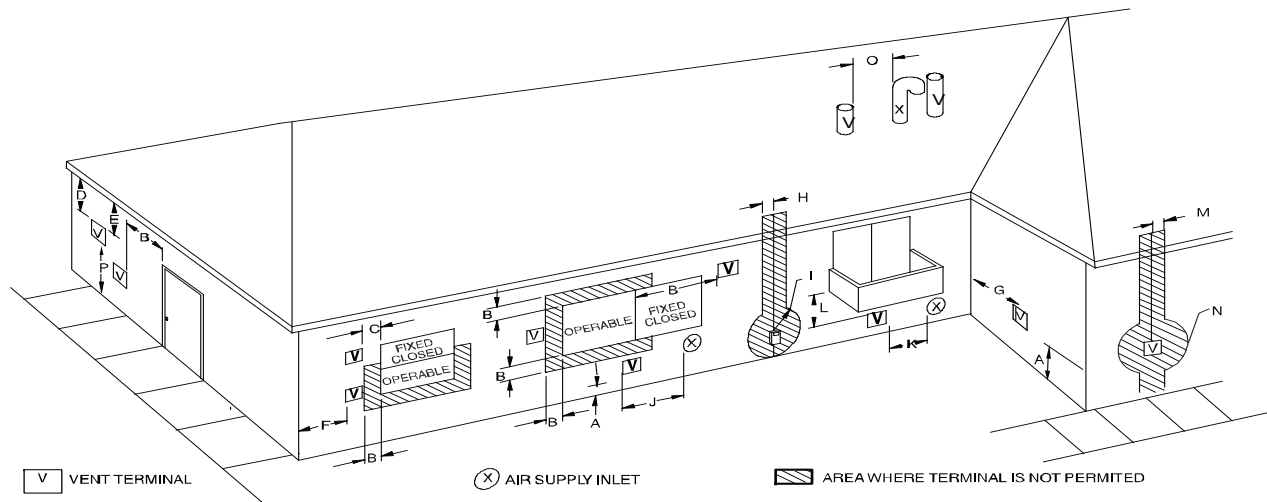
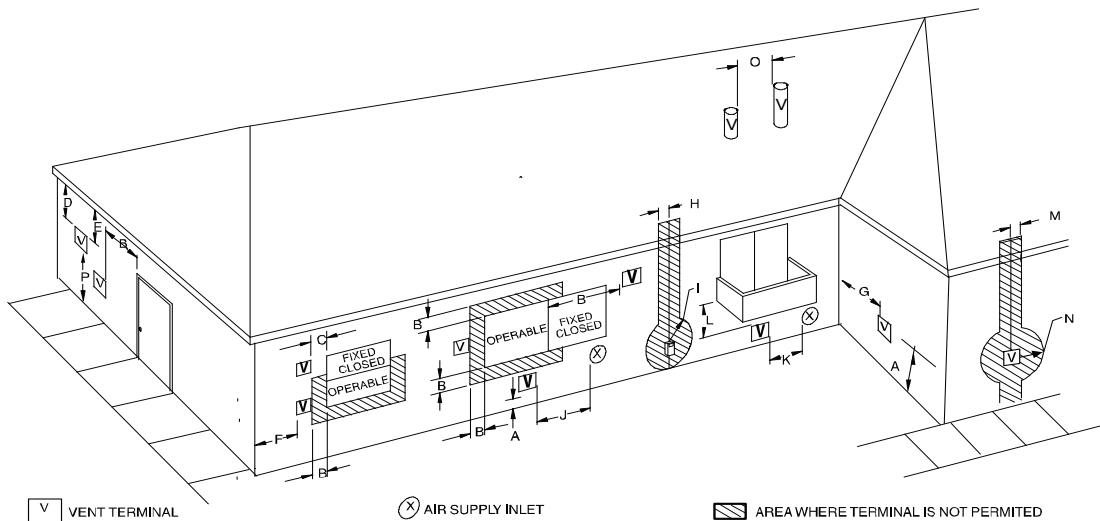
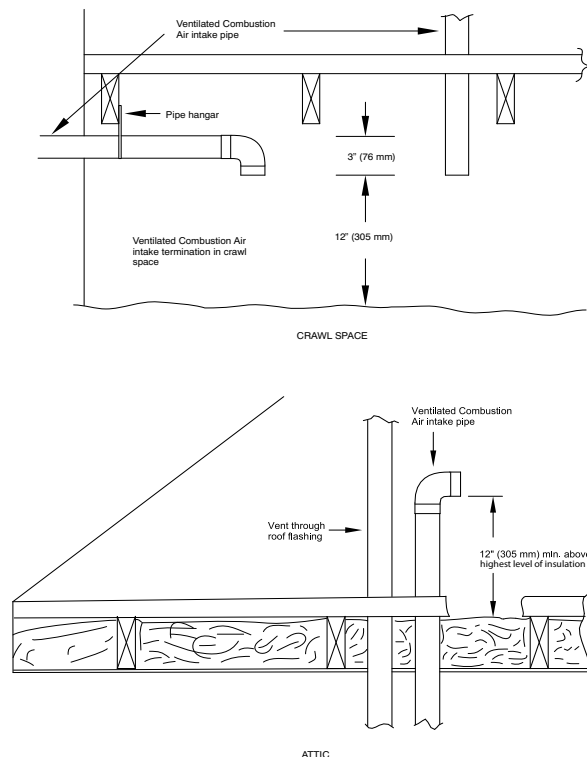

Fig. 42 – Direct Vent Termination Clearance
Fig. 43 – Ventilated Combustion Air and Non-Direct Vent Termination Clearance
Fig. 47 – Vent Terminations for Ventilated Combustion Air
In a direct-vent (2-pipe) system, all air for combustion is taken directly from outdoor atmosphere, and all flue products are discharged to outdoor atmosphere. Combustion-air and vent pipes must terminate together in the same atmospheric pressure zone, either through the roof (preferred) or a sidewall. See Fig. 42 for references to clearances required by National Code authorities.
In a ventilated combustion air option, the vent terminates and discharges the flue products directly to the outdoors similar to a direct vent system. See Fig. 43 for references to clearances required by National code authorities.
outdoor atmosphere. Air for combustion must be supplied as described in the Air For Combustion and Ventilation Section. Do not use an abandoned chimney to supply outside air to the furnace. See Fig. 43 for references to vent clearances required by National code authorities.
For vent termination clearance, references to National codes are shown in Fig. 42 for Direct Vent/2-Pipe system and Fig. 43 for Ventilated Combustion Air/Non-direct Vent/1-Pipe system. For exterior termination arrangements, refer to Fig. 39 for Direct Vent/2-Pipe system and Fig. 40 for Ventilated Combustion Air/Non-Direct/1-Pipe system. Contact Local code authorities for other requirements to and/or exemptions from the National codes shown in the figures.
1. Comply with all clearance requirements stated in Fig. 42 or Fig. 43 per application.
Direct vent (2-pipe) vent and combustion air pipes must terminate outside the structure. See Fig. 42 For references to vent clearances required by National code authorities. Allowable vent and combustion air terminations are shown in Fig. 39.
The vent pipe for a Ventilated Combustion Air System must terminate outdoors. See Fig. 43 for references to vent clearances required by National code authorities. Allowable vent terminations are shown in Fig. 40. The combustion air pipe terminates in a well-ventilated attic or crawl space. Follow the clearances as shown in Fig. 47.
The vent pipe for a Non Direct Vent (1-pipe) system must terminate outdoors. See Fig. 43 for references to vent clearances required by National Code authorities. Allowable vent terminations are shown in Fig. 40.